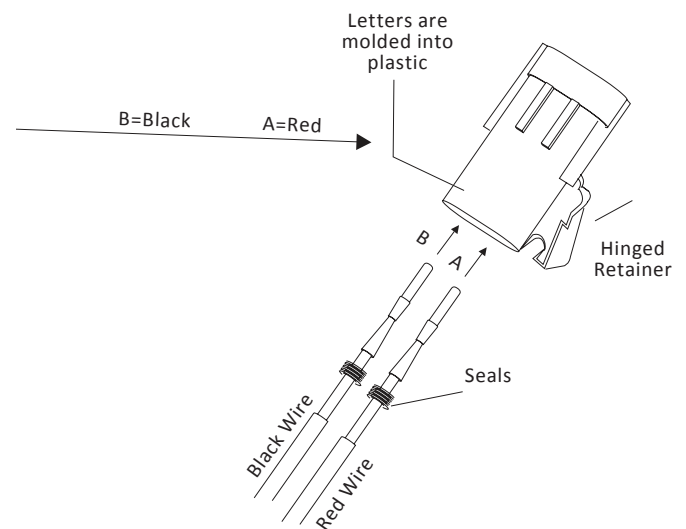

Figure 4-6
- The connector is marked with an A and B. The A side is for the Red wire and the B side is for the Black wire. If wires are connected incorrectly, the lift will not operate correctly. **See Figure 4-6.**